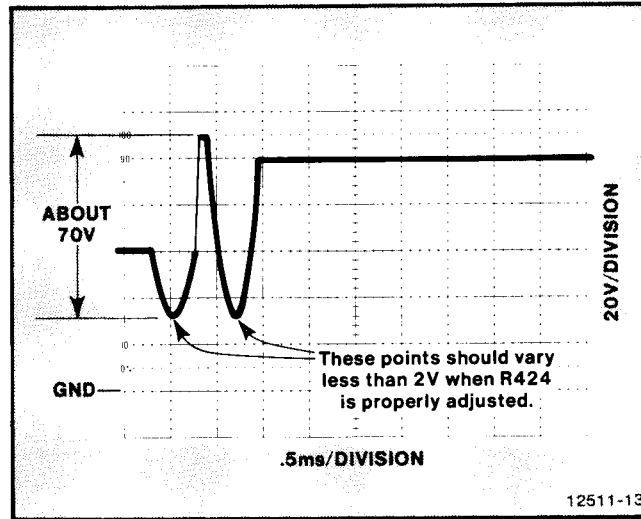

Figure 4-13. Dynamic Focus Waveform.
3. **Adjust** R424 (the DYNAMIC FOCUS control, at the lower center of the Deflection Amplifier board) so that the lowest portion of the waveform changes less than 2 volts as R218 (CORNER FOCUS adjustment -- High Voltage and Z-Axis board) is ranged from one extreme to the other. See Figure 4-13.